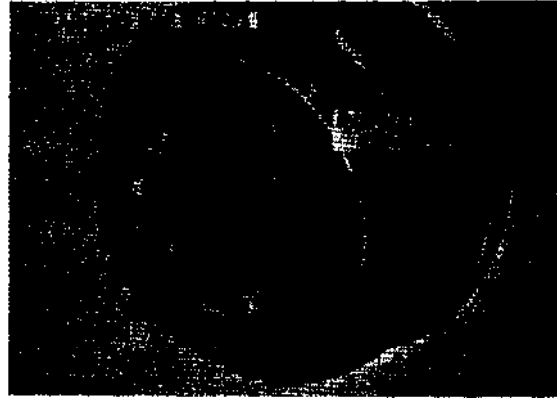

Figure 328. Hub and drum assembly with wheel and tire assembly removed
- (1) With wheel and tire assembly removed, remove nut and lockwasher from stud securing inspection cover (fig. 328) to brakedrum, and remove cover.
- (8) Position inspection cover (fig. 328) on brakedrum stud, install lockwasher and nut on stud, and tighten nut.
- (1) With wheel raised, remove 10 drive flange retaining cap screws (fig. 328), and remove flange from hub.
- (5) Check adjustment. Position drive flange (fig. 328) on hub, and install 10 retaining cap screws. Tighten cap screws.